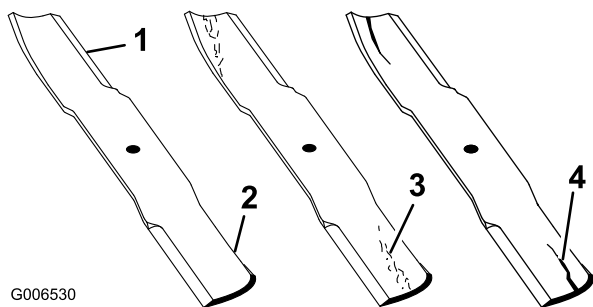

Figure 92
1. Inspect the cutting edges (Figure 92).
4. If you notice any cracks, wear, or a slot forming in this area, immediately install a new blade (Figure 92).